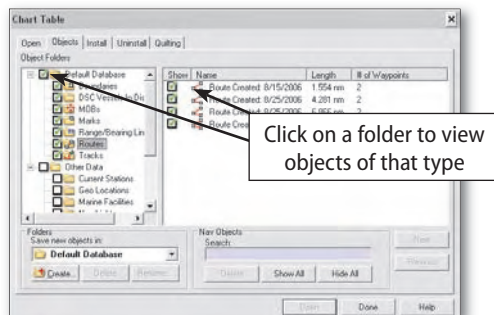

Figure 5.6 - Objects Tab of the Chart Table
2. In the left menu, expand the folder for the data type you wish to change the view settings for (see Figure 5.6). Place a check mark next to the item type or select **All Visible** to make data of that type visible. **None Visible** makes all data of that type invisible on the chart.